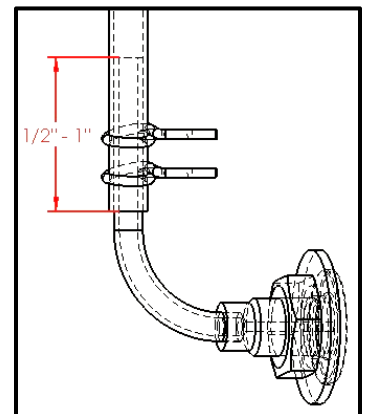

FIGURE 6 - Poly-Flo Tubing Overlap
10. Install static port into the poly-flo tubing, making sure there is a 1/2"-1" overlap (see Figure 6). Once the tubing is fitted onto the static port, feed both parts back through the hole.